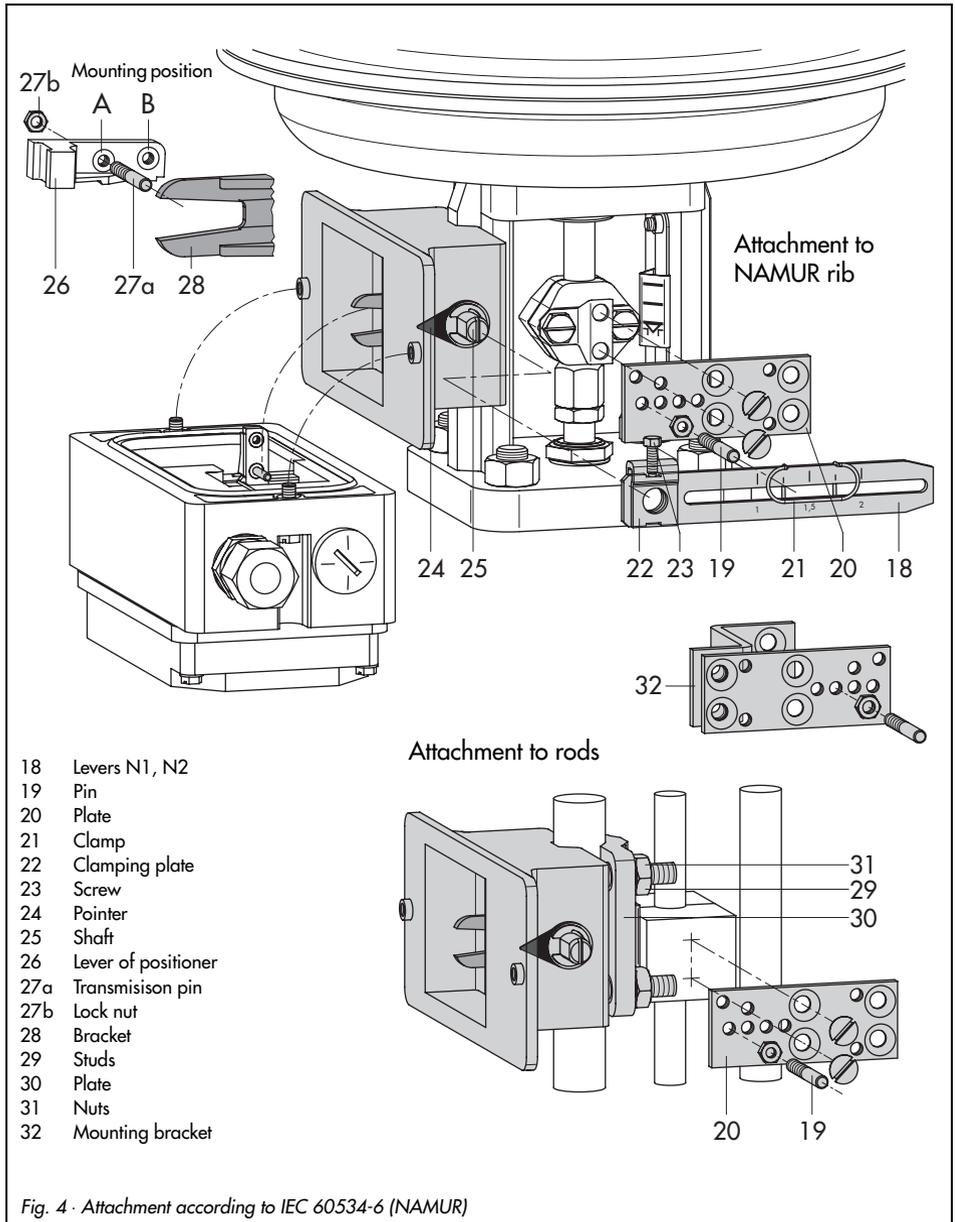

Fig. 4 · Attachment according to IEC 60534-6 (NAMUR)
For positioner attachment according to NAMUR as shown in Fig. 4, an adapter housing is required. The valve travel is transmitted via the lever (18) and the shaft (25) to the bracket (28) of the adapter housing and then to the pin (27) located at the positioner lever.